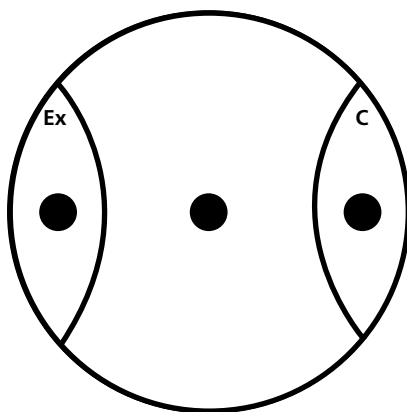

Figure 6:
7. **PREPARE** two NGM plates for the assay using the template provided (see Figure 6, page 15).